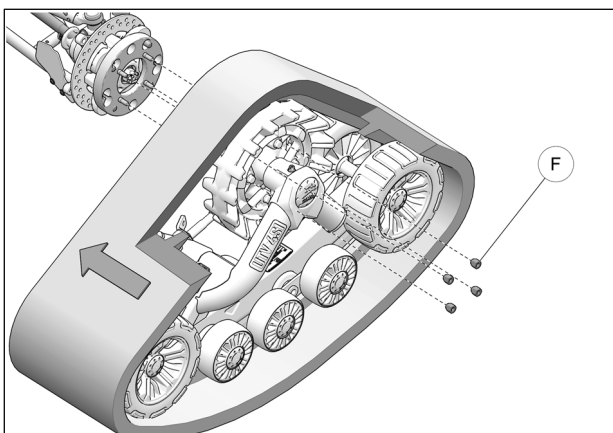

Fig. 19
7. Secure the undercarriage to the front wheel spacer using the provided M10 lug nuts (F). See Fig. 19